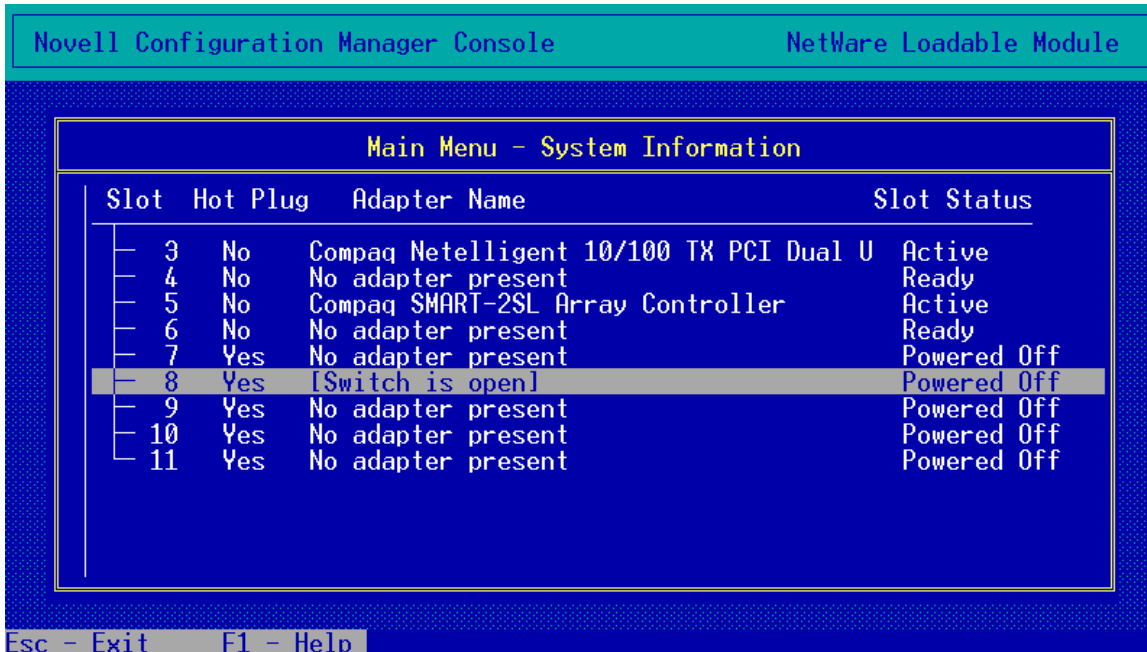

Figure 3. Novell Configuration Manager – Switch open for PCI Slot 8
- **Hot removal of boards** – You can manually shut down and permanently remove a board: see Figure 3.